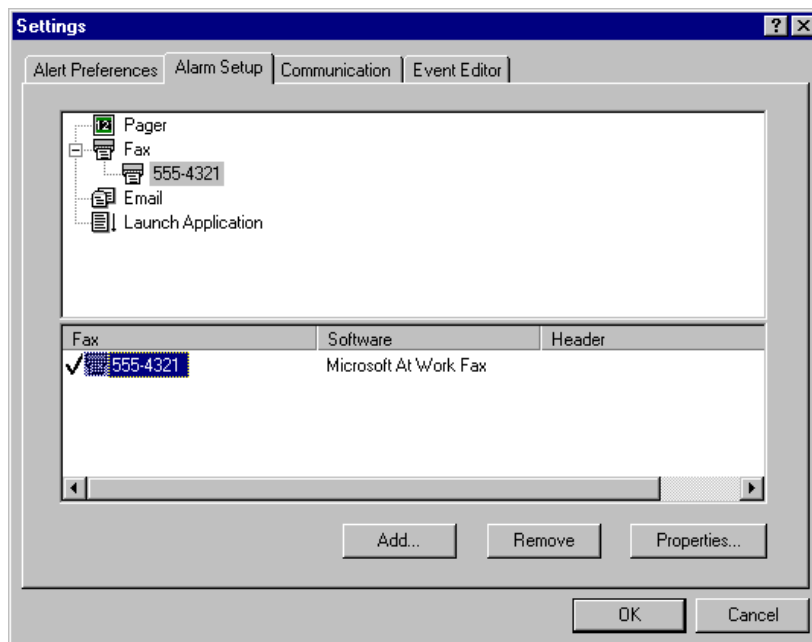

Figure 3-23. Fax Alarm Setup
1. Select the Fax alarm type in the upper window of the Alarm Setup dialog box (Figure 3-23).
Your new Fax entry appears in the lower window of the Alarm Setup dialog box. (Refer to Figure 3-23 for an example.)